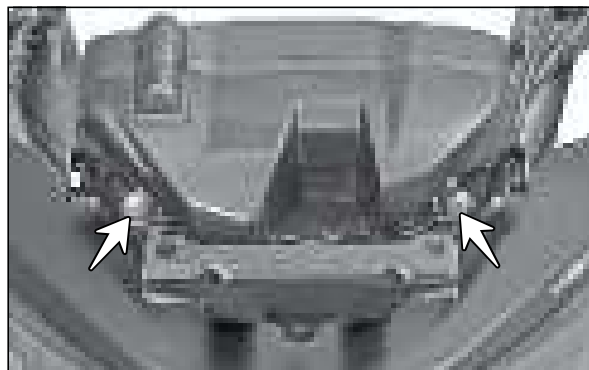

Fig. 5.76
- Remove the CRR pan head screw (M5x16 - 2 Nos.) from the housing speedometer rear mounting and remove the housing speedometer rear. (Fig. 5.76)